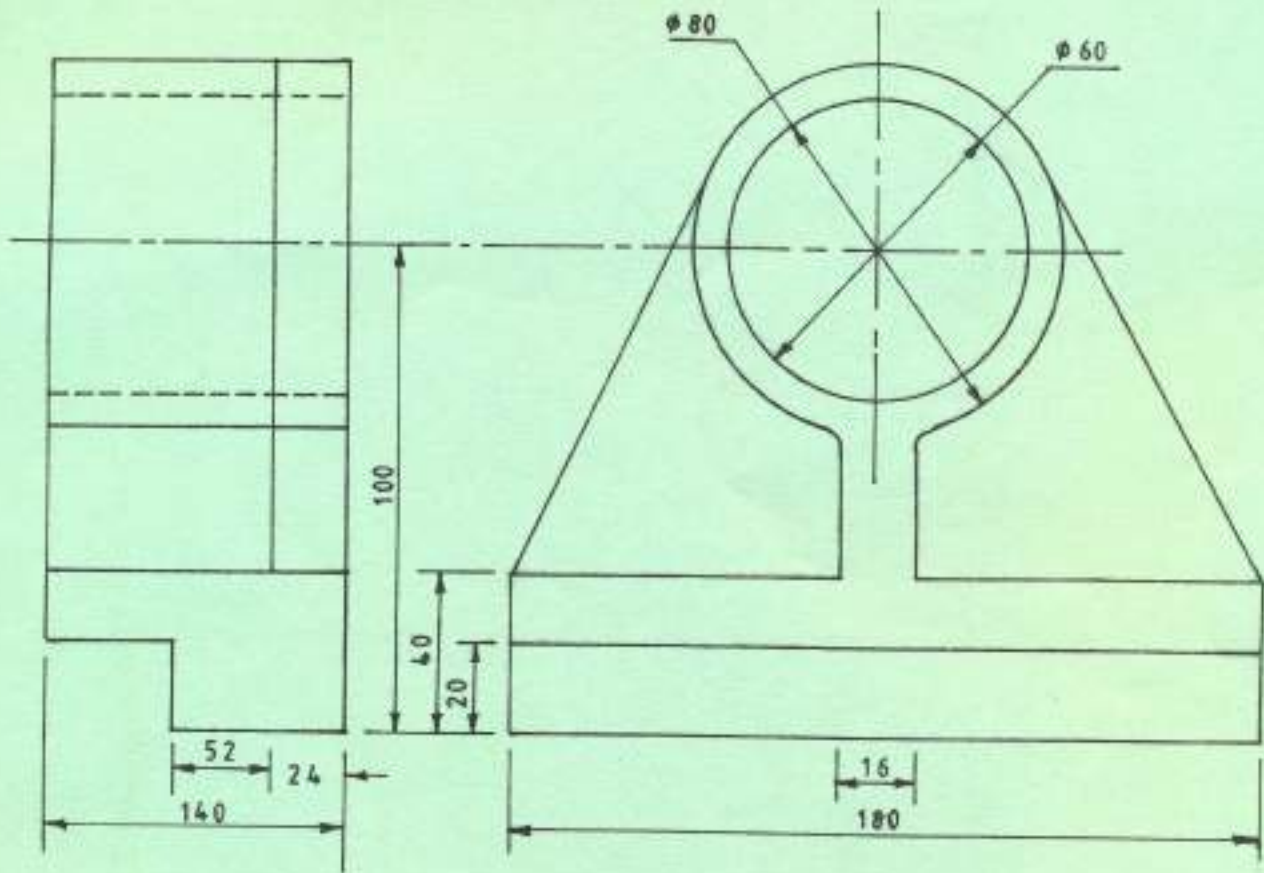

Fig.5
6. Figure 5 shows two views of a bracket drawn in first angle projection. Use the scale of 1:2 to draw the bracket in oblique cabinet projection. Include six major dimensions.